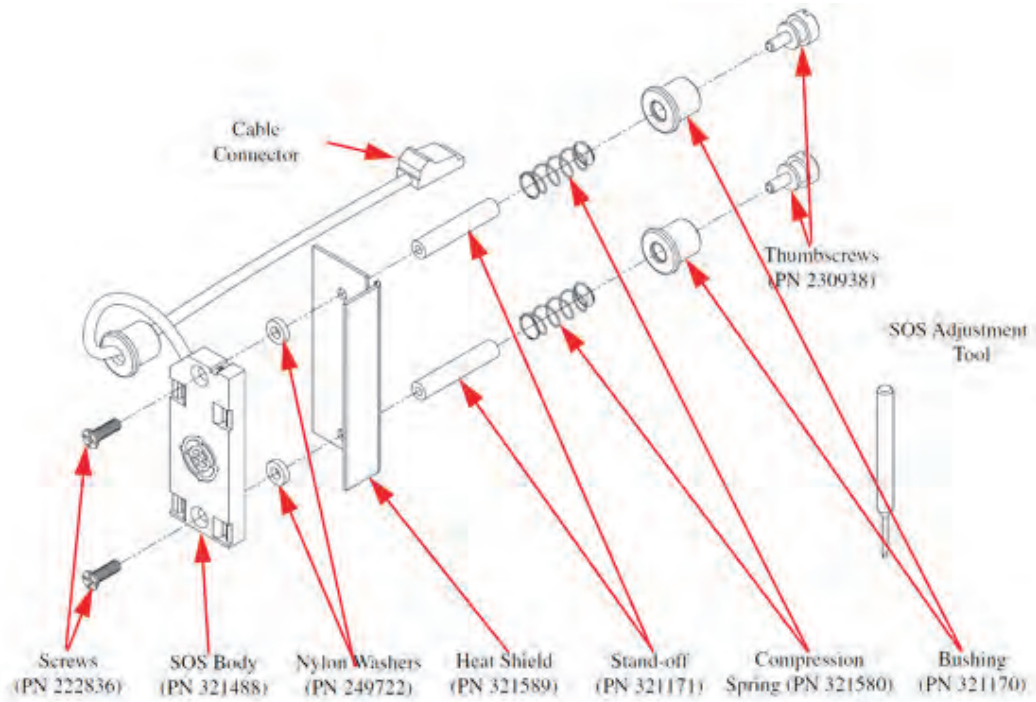

Figure 10.11. Spurge Overfill Sensor
1. Place the SOS on the heat shield (PN 321589) with the printed side down and the target (cross) side up (see Figure 10.11, “Sparge Overfill Sensor” on page 184).
2. Insert the screws (PN 222836) into the holes on the SOS. Place nylon washers (PN 249722) and heat shield (PN 321589) on screws behind the SOS and attach the brass standoffs (PN 321171). Refer to Figure 10.11.